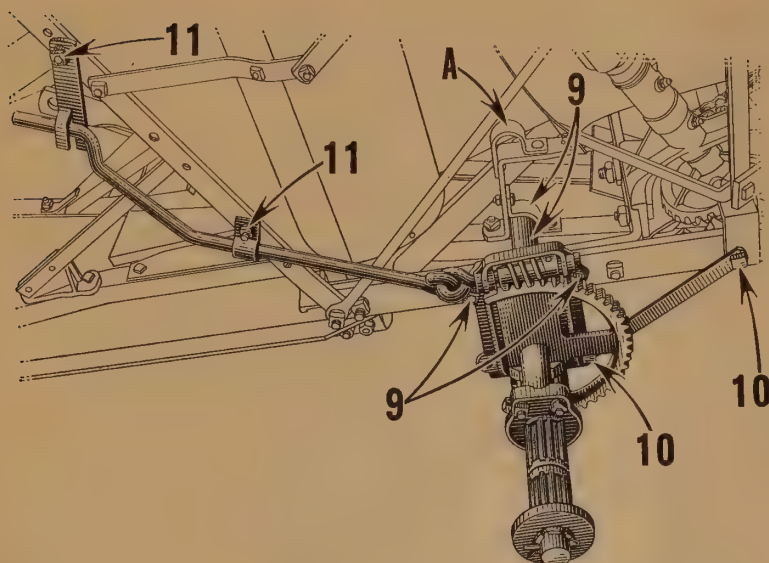

Fig. 12
9. (Fig. 12.) Slide L. H. main wheel axle into lower inner support bracket and bolt outer support bracket for L. H. wheel to main frame support sill as shown.
10. (Fig. 12.) Attach flat brace for outer support bracket to **inside** of support bracket and to **outside** of frame sill as shown.
11. (Fig. 12.) Secure L. H. main wheel raising crank and lock to gatherer support at lower position with brackets as shown.